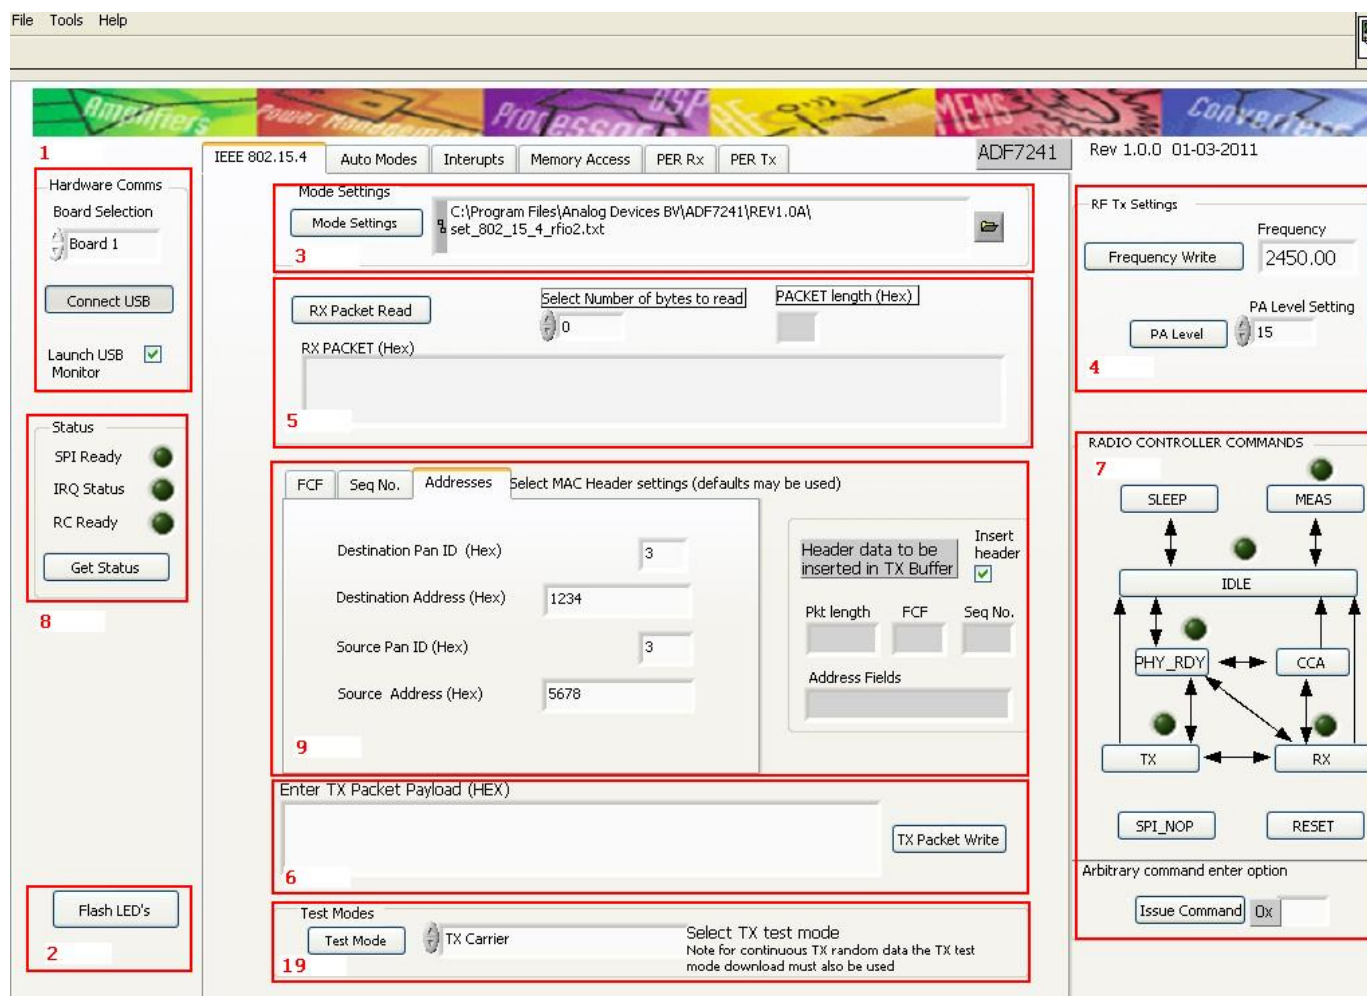

Figure 2: This screen shot shows the IEEE 802.15.4 tab.
If two boards are connected to one PC launch 2 software GUIs and select board1 on one and board2 on the other. Figure 2 shows the software GUI.
3. Figure 2 shows the IEEE 802.15.4 tab.